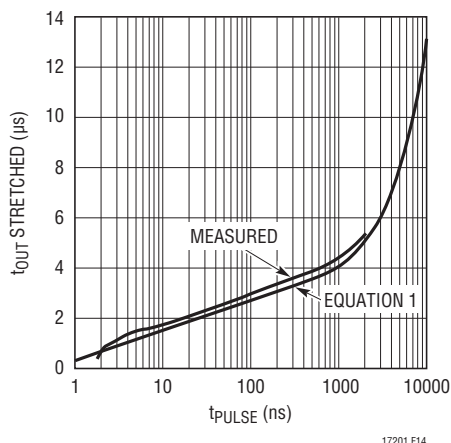

Figure 14. Log Pulse Stretcher Output Pulse vs Input Pulse
The circuit topology itself is extremely fast, limited theoretically only by the speed of the diode, the capture time constant τ_1 and the pulse source impedance. Figure 14 shows results achieved with the implementation shown, compared to a plot of Equation (1). The low end is limited by the delivery time of the upstream comparators. As the input pulse width is increased, the log function is constrained by the asymptotic RC response but, rather than becoming clamped, becomes time linear. Thus, for very long input pulses the third term of Equation (1) dominates and the circuit becomes a 3 μs pulse stretcher.
in the two output pulse widths is the per-octave response of your circuit (see Equation (3)). Shorter cable length differences can be used to get a plot of circuit performance down to 1.5ns (if any), which can then later be used as a lookup reference when you have moved from quantifying the circuit to using the circuit. (Note there is a slight aberration in performance below 10ns. See Figure 14.) As a final check, feed the circuit with identical cable lengths and check that it is not producing any output pulses.
This circuit has an ultimate sensitivity of better than 14mV with 5ns to 10ns input pulses. It can even detect an avalanche generated test pulse of just 1ns duration with sensitivity better than 100mV.⁶ It can detect short events better than the coincidence detector of Figure 14 because the one-shot is configured to catch just 100mV of upward movement from C1's V_{OL} , whereas the coincidence detector's 3ns specification is based on a full, legitimate logic high, without the help of a regenerative one-shot.